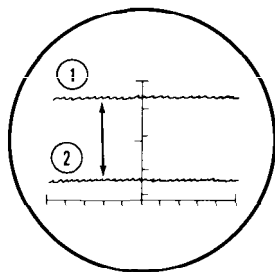

Figure 15
GAIN control is advanced clockwise. The CRT trace will abruptly deflect vertically. See Figure 15.
- () Either twist more turns or untwist turns until the trace is at position 1 as shown in Figure 15. If the trace jumps completely off the screen, it may be necessary to untwist the wires completely and just have them near each other.